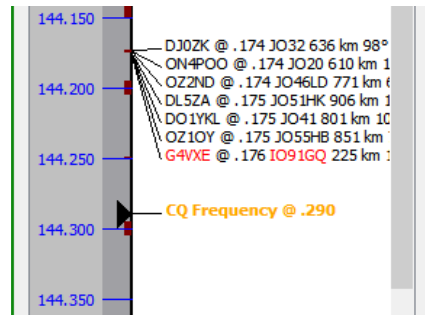

Figure 158 – Run frequency marker
- If operating in Run mode, the current Run frequency is marked on the display¹³⁹ as ‘CQ Frequency’, with the fractional frequency appended (see Figure 158); the marker changes colour if the rig moves off the run frequency.